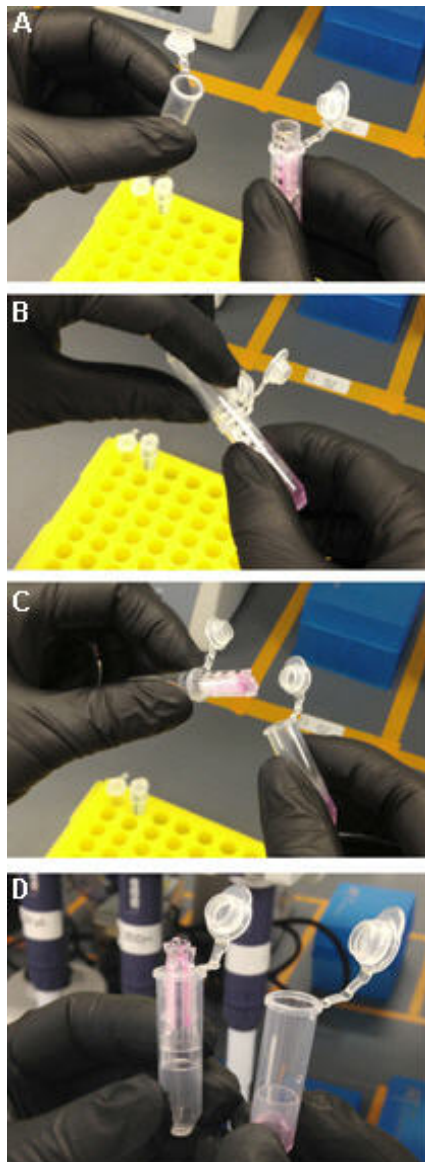

Figure 2 Inversion of the column into a fresh collection tube.
- a Keep the old collection tube upright throughout this step. With the fresh collection tube in one hand and the old collection tube in the other hand (panel A in Figure 2 on page 42), invert the fresh collection tube and use it as tweezers to grasp the edge of the column (panel B in Figure 2). Pull the column out of the old collection tube (panel C in Figure 2).
- b Maintain the grip on the column as you flip the fresh collection tube from an inverted to an upright position. Then, release the grip on the column to allow it to slide into the fresh collection tube in the inverted position (panel D in Figure 2). Discard the old collection tube containing the flow-through.